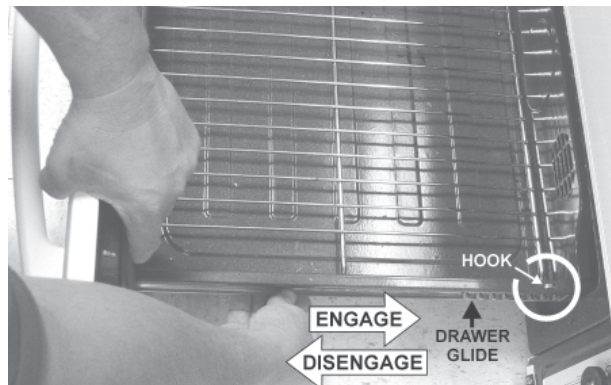

Fig. 2
3. With one hand hold the drawer front in place. Use your other hand to pull the glide away from the oven -*Fig. 2*- until the glide hook disengages -*Fig. 3*.